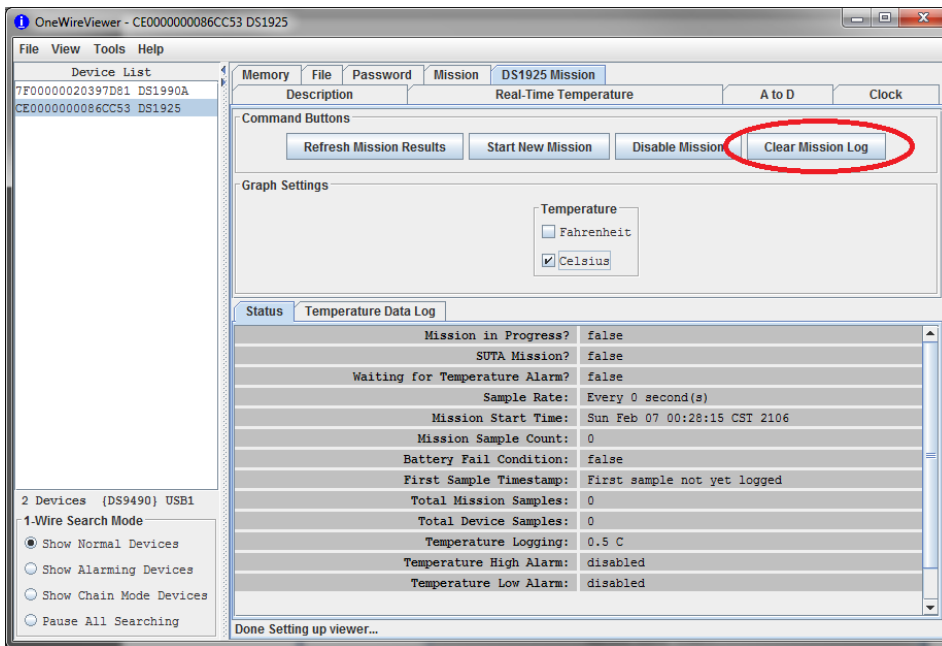

Figure 28. Sample DS1925 Mission tab.
- New button **Clear Mission Log (Figure 28)**. This can be called to do an **XPC Clear Memory (log)** on a new device. This could be done to a device that you don't want to start a mission but want to get it out of the starting state.